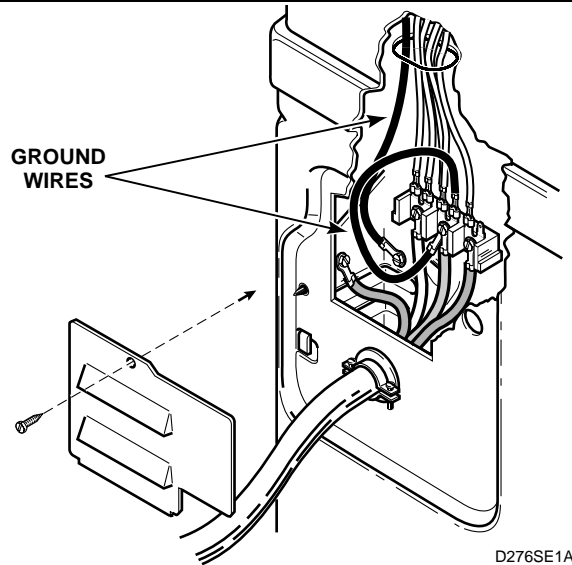

Figure 2
15. GROUND WIRES FROM TERMINAL BLOCK OR POWER CORD TO REAR BULKHEAD AND FROM REAR BULKHEAD TO CONTROL HOUSING (*Figures 2 and 3*).